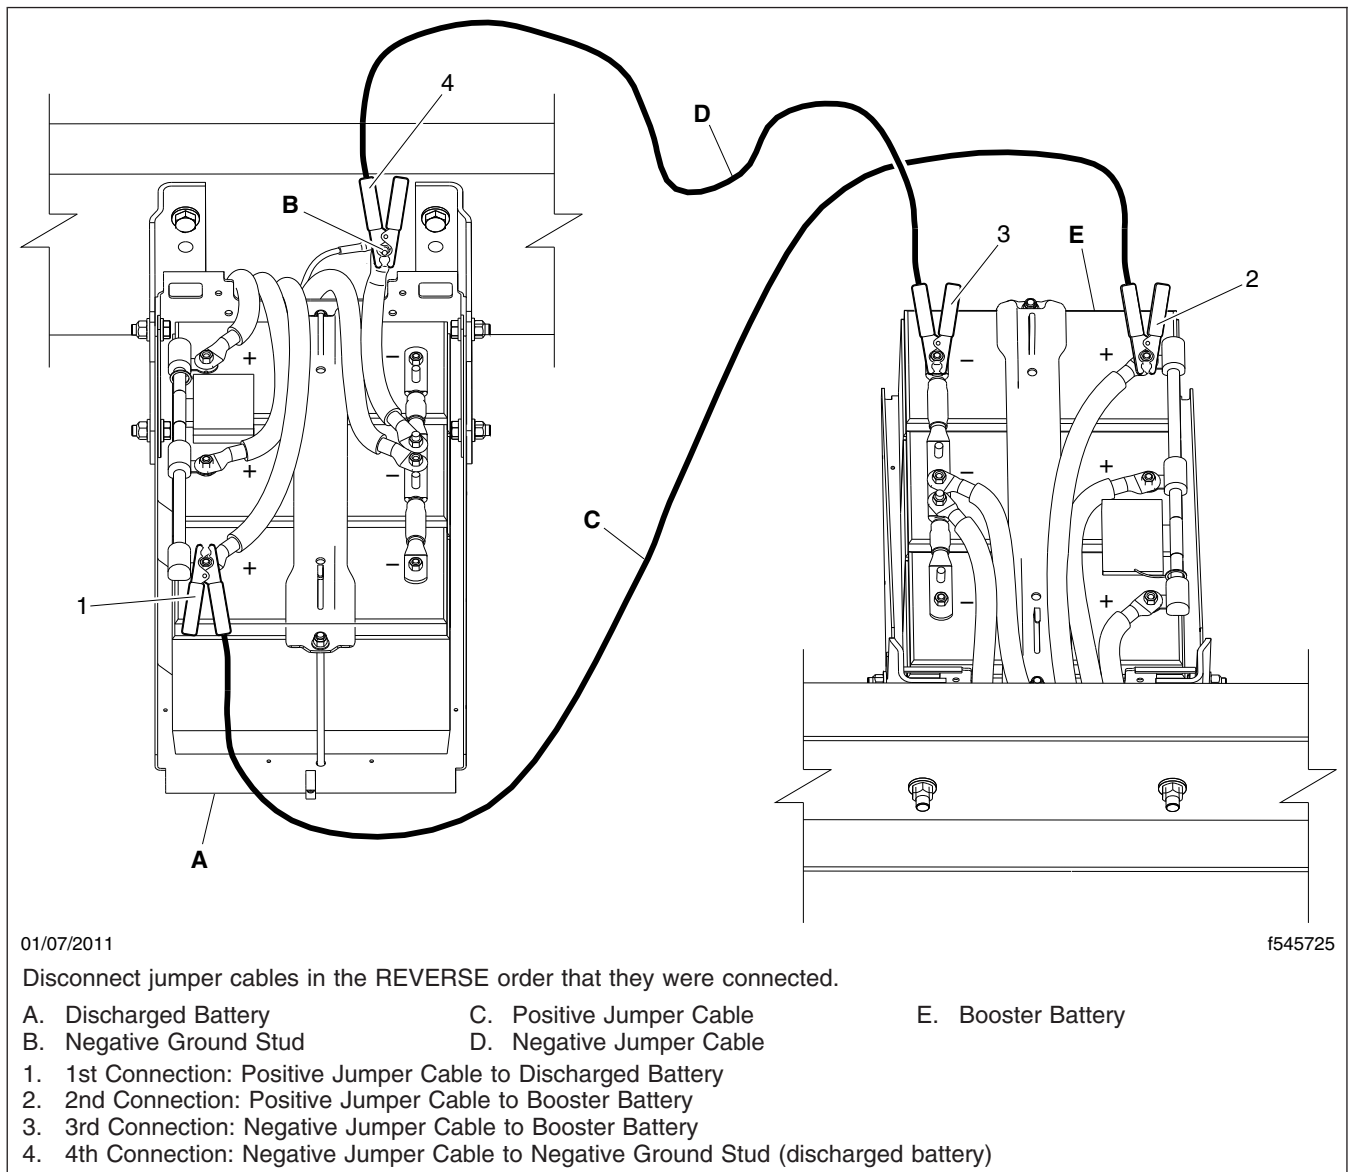

Fig. 13.2, Jumper Connections (three battery system shown for clarity)
3. Connect the positive (+) jumper cable to the positive terminal on the discharged battery. See Fig. 13.2.